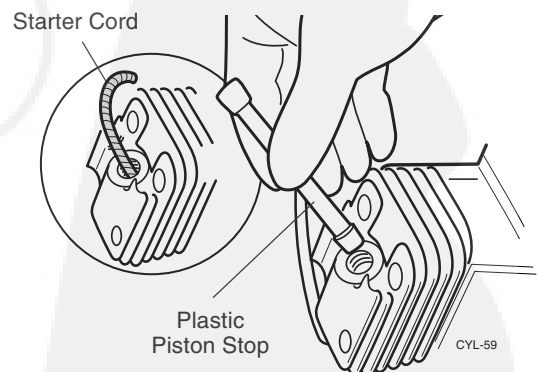

Figure 13.5 Lock the Crankshaft
- STEP 1.** Remove the spark plug, and then lock the crankshaft by inserting a plastic piston stop or length of starter cord through the spark plug hole (Figure 13.5).